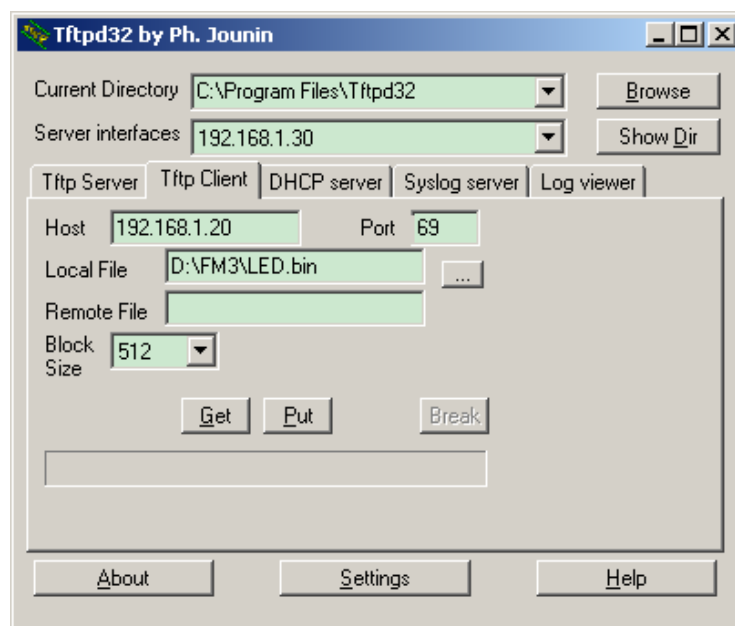
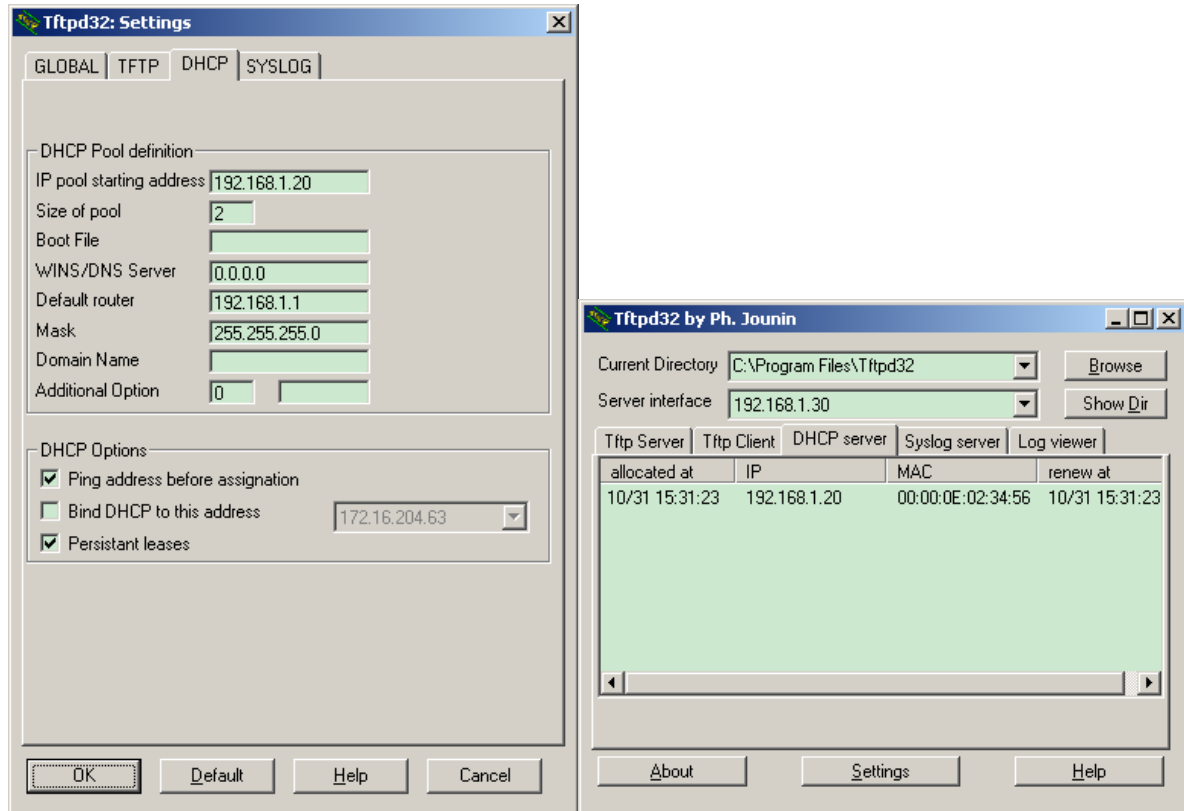

Figure 2 TFTP client tool configuration
Figure 3 DHCP server configuration and retrieve the IP address
- 2) Set the IP address, port and block size as shown in figure 2 *.
- The Tftpd32 tool should be configured as shown in figure 3 before retrieving the IP address (e.g. 192.168.1.20) and setting it in figure 2.